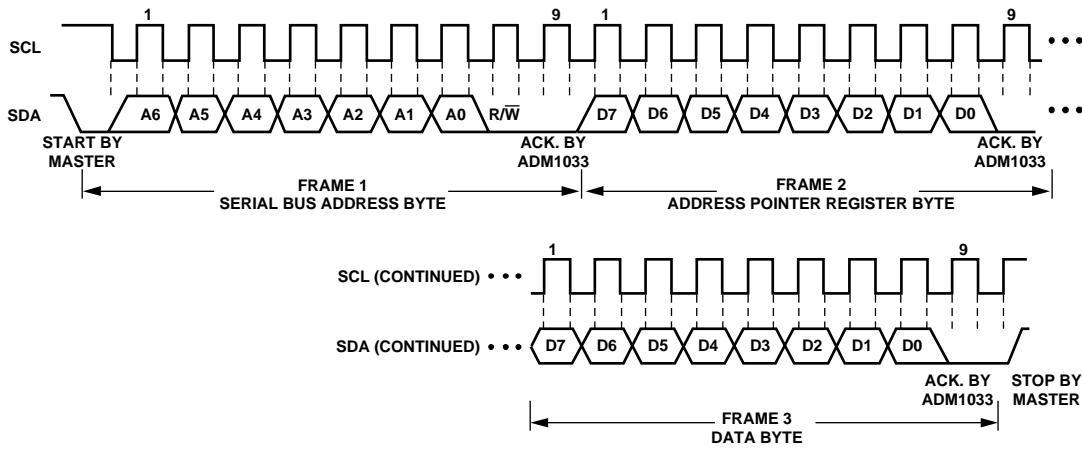
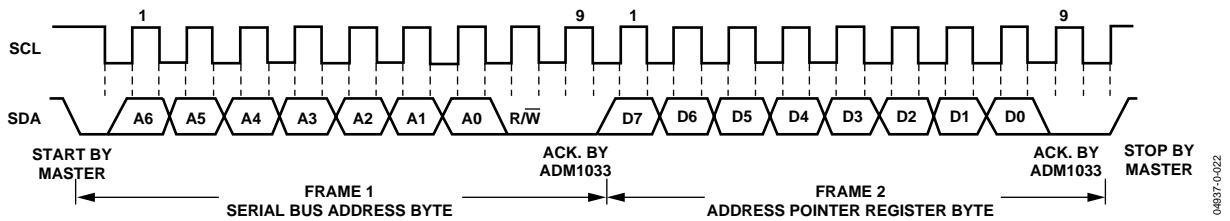
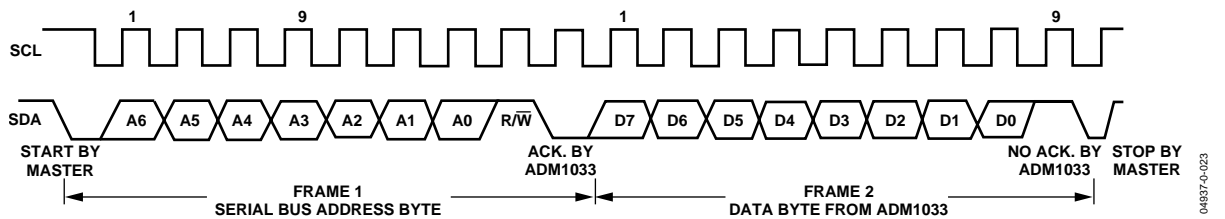

Figure 18. Writing a Register Address to the Address Pointer Register, then Writing Data to the Selected Register
Figure 19. Writing to the Address Pointer Register Only (Send Byte)
Figure 20. Reading Data from a Previously Selected Register
As shown in Figure 18, the device address is sent over the bus, followed by R/\overline{W} set to 0. This is followed by two data bytes. The first data byte is the address of the designated internal data register, which is stored in the APR. The second data byte is the data to be written to the internal data register.
- If the ADM1033's APR value is unknown or incorrect, it must be set to the correct value before data can be read from the desired data register. To do this, perform a write to the ADM1033 as before; but this time send only the data byte containing the register. (See Figure 19.) A read operation is then performed. With the serial bus address and the R/\overline{W} bit set to 1, the data byte is read from the data register. (See Figure 20.)
- If the APR is known to be already at the desired address, data can be read from the corresponding data register without first writing to the APR. In this case, Figure 19 can be omitted.
In Figure 18 to Figure 20, the serial bus address is determined by the state of the LOCATION pin on power-up.